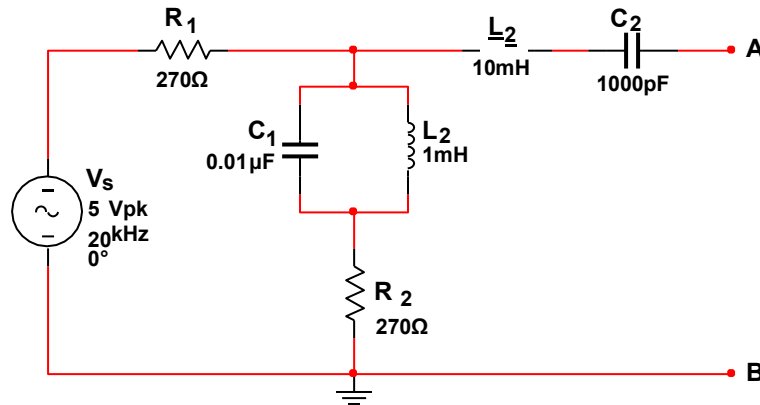

Figure P.2 – AC Analysis Circuit
1. **Derive** general **equations** to find the Thévenin Voltage, V_{TH} , Thévenin Impedance, Z_{TH} , and Short Circuit Current, I_{SC} , with respect to terminals A and B in **Figure P.2**.
4. **Draw** the **Thévenin Equivalent** circuit for **Figure P.2**.
- a. **Label** it as **Figure P.2a – Thévenin Equivalent of Figure P.2**